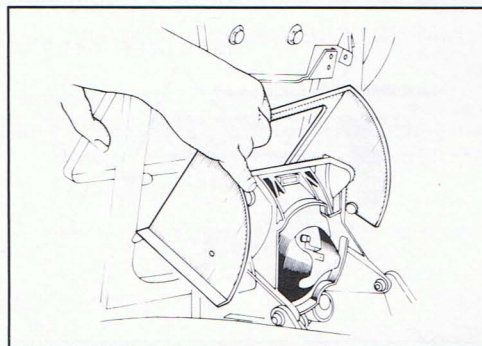

Figure 4 - Removing plastic bezel
10. Hold the spring loaded headlight door open with one hand and remove the black plastic outer bezel by moving it up and then back over the headlight assembly (toward the passenger compartment). See Figure 4.